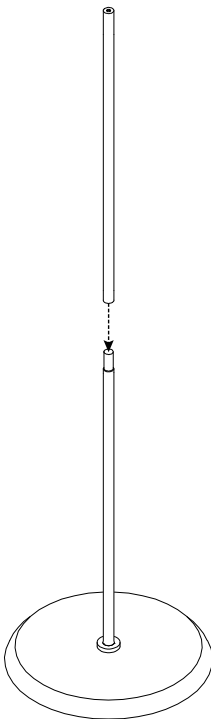

Figure 2
2. Slide top post over bottom post. Twist in place to tighten. (See Figure 2)